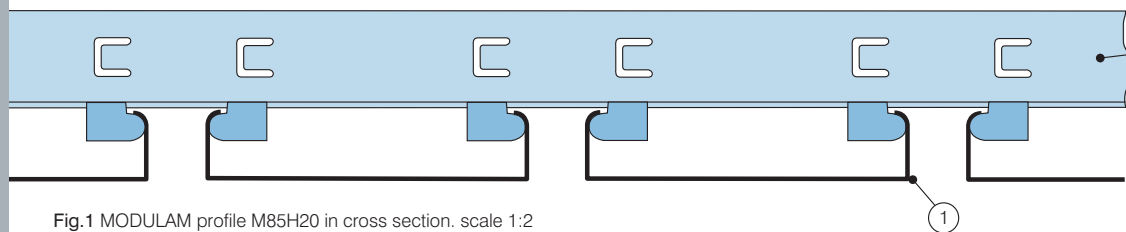

Fig.1 MODULAM profile M85H20 in cross section. scale 1:2
Suspended from the structural soffit by adjustable hangers (3A) (Fig.3) or (3B) (see rear page), Omega carriers (2i) (Figs.1,2,3), contain preformed tongues in their base, over which the MODULAM profiles (1) are clipped to make a secure attachment which is however, capable of being disengaged by hand or tool. The tongue spacings dictate the joint width (J)
Manufactured from light gauge aluminium or mild steel strip, the U shaped profiles (1) (Fig.1) in the MODULAM range are fixed as shown to create demountable linear interior ceilings.